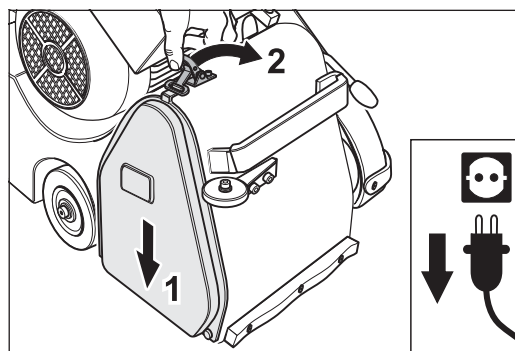

Fig. 20 Mount the side cover.
- 15 After the checking and setting of the sanding belt tracking mount the side cover (fig. 20).